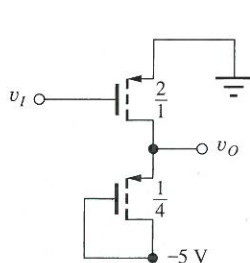

Figure P6.152
- *6.152. What are the values of V_L and V_H for the inverter in Fig. P6.152?
- 6.157. Simulate the voltage transfer characteristic for the PMOS gate in Fig. P6.152, and compare the results to those of Prob. 6.152.
- 6.159. Simulate the delay of the PMOS gate in Fig. P6.152 with a load capacitance of 1 pF, and determine the rise time, fall time, and average propagation delay.